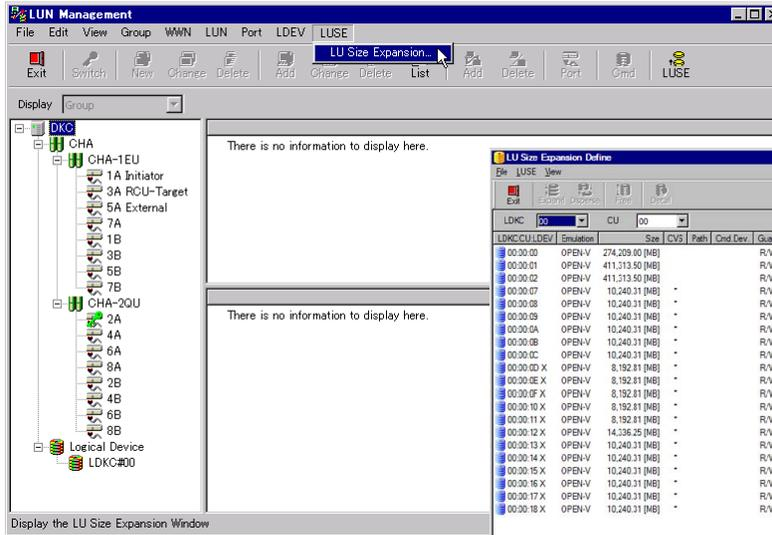

Fig. 3.10-9 Main Window
A reference of an LUSE is to be done in the following procedure. Select (DR) [LU Size Expansion...] from the [LUSE] menu in the main window (Fig. 3.10-9).